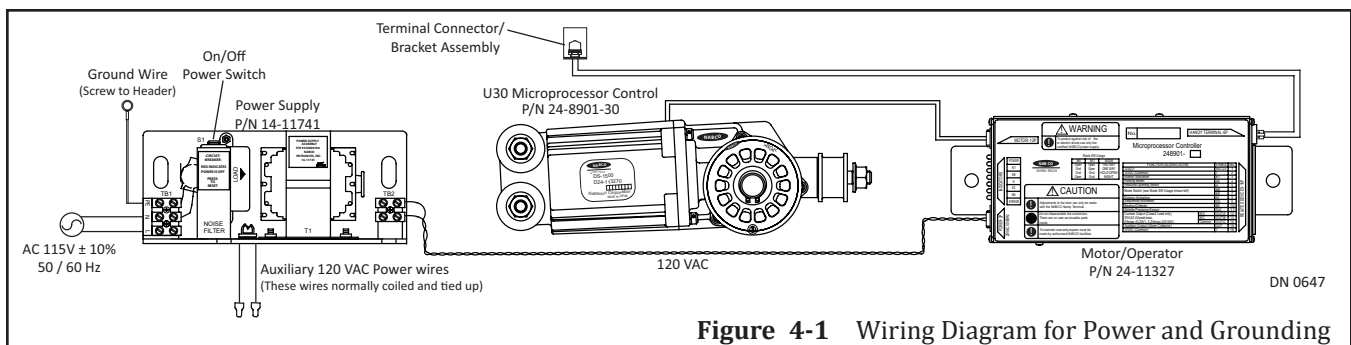

Figure 4-1 Wiring Diagram for Power and Grounding
2. Ensure all components are wired and set properly. Please see Figure 4-1.
1. Wait at least (10) seconds before disconnecting the Handy Terminal to allow the:
- a. If power to the U30 Microprocessor Control needs to be disconnected, wait an additional (10) seconds to ensure all settings have been established. Please see Figure 4-1.
1. Plug the Handy Terminal into the Terminal Connector. Please see Figure 4-1.